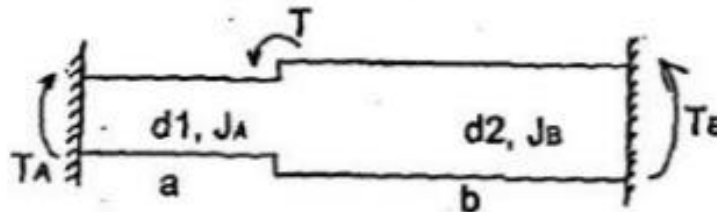

Fig. Q.13(b)(i)
- (b) (i) A stepped solid circular shaft is built in at its ends and subject to an externally applied torque T at the shoulder as shown in fig. Q.13(b)(i). Determine the angle of rotation θ of the shoulder section when T is applied. (7)